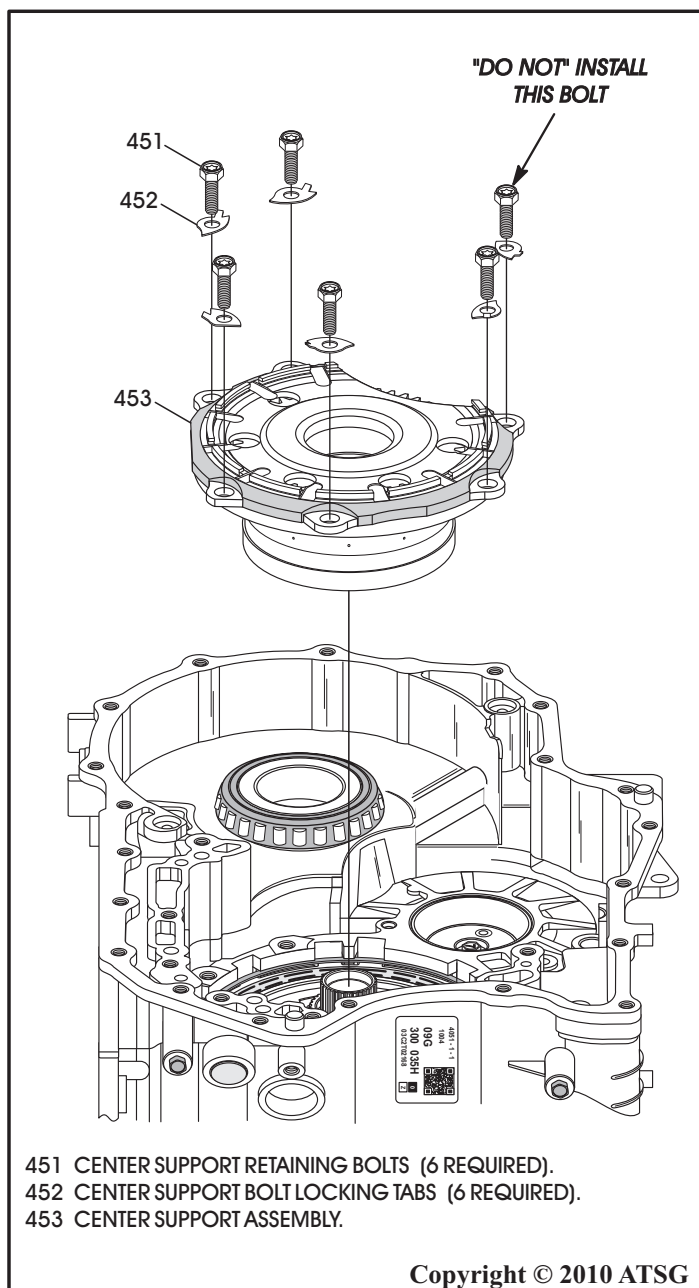

Figure 172
11. Install the completed center support assembly, as shown in Figure 172, by rotating back and forth into position.
12. Install five of the six center support retaining shown in Figure 172, and hand tighten only the five installed bolts.
25. Now install the last center support retaining bolt, as shown in Figure 172, and torque all six bolts to 22 N·m (16 ft.lb.), using a 50 Torx bit.